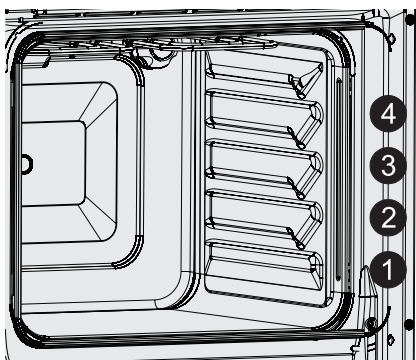
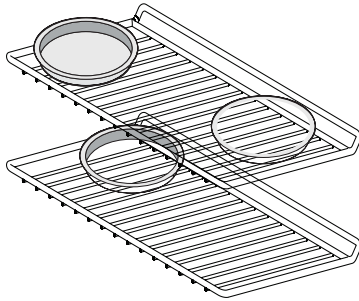

Figure 22: Oven Rack Positions
Figure 24: Baking with multiple levels & racks
- For best results when baking with one oven rack, place racks in positions 2 or 3 (Figure 22).
- For best results when baking cakes or cookies using two oven racks, place racks in positions 1 and 3 (Figure 22) and place pans as shown in Figure 24.